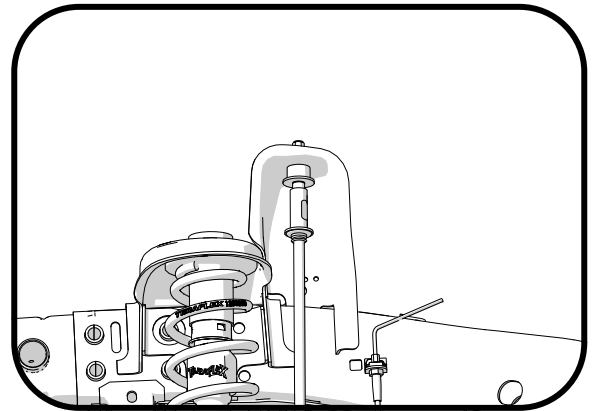

Figure 2
4. Place the stem through the shock mount bracket and put another upper stem bushing on, oriented as shown, and follow it with another washer. Tighten the nut to 20 ft-lbs or until the bushings compress about 1/8 inch. (Figure 2)